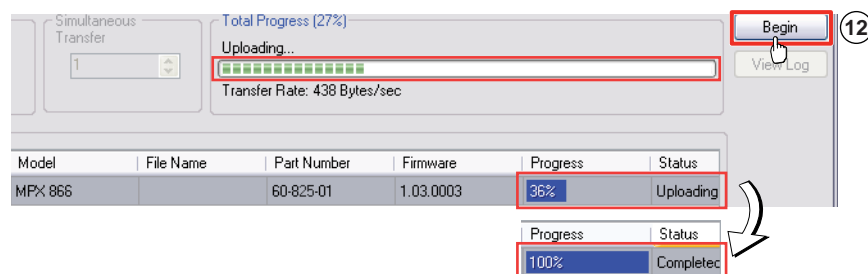

Figure 42. Firmware Loader Screen
12. In the Firmware Loader window, click **Begin** (see figure 42).